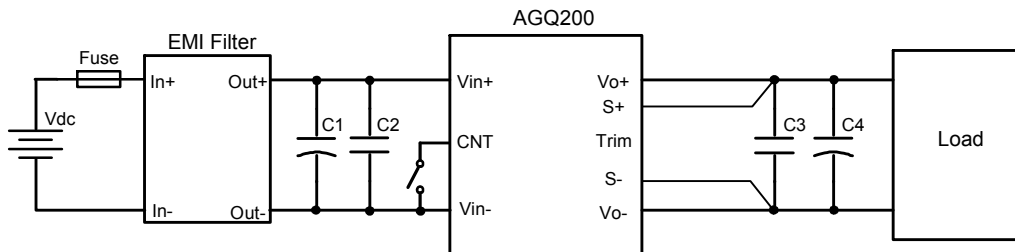

Figure 11 Typical application
Figure 5 Dynamic response for 25% load step (25% ~ 50% ~ 25%) and 0.1A/µs slew rate, (0.5ms/div), see Figure 11 for test configuration; CH1-output voltage (100mV/div); CH2-output current (20A/div)
Figure 6 Dynamic response for 25% load step (50% ~ 75% ~ 50%) and 1A/µs slew rate, (0.5ms/div), see Figure 11 for test configuration; CH1-output voltage (200mV/div); CH2-output current (20A/div)
- C1 ~ C4: See Figure 11